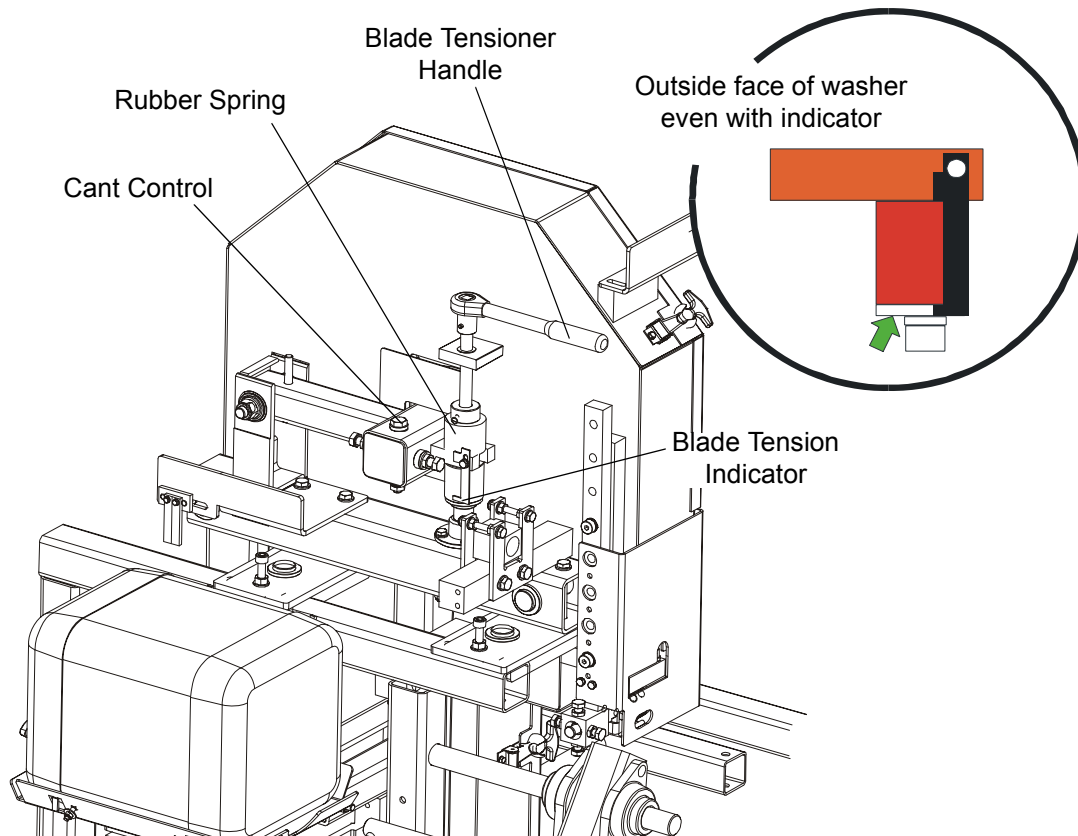

FIG. 2-3
**See Figure 2-3.** Place the provided handle on the blade tensioner shaft. Turn the handle clockwise until the outside face of the rubber spring washer is even with the indicator (see the figure below). Check the blade tension occasionally when adjusting the cant control or while cutting and adjust if necessary. As the blade and belts heat up and stretch, the blade tension will change. Also, ambient temperature changes can cause tension to change.
5. Use the cant adjustment bolt, shown in **Figure 2-3**, to adjust where the blade travels on the blade wheels.